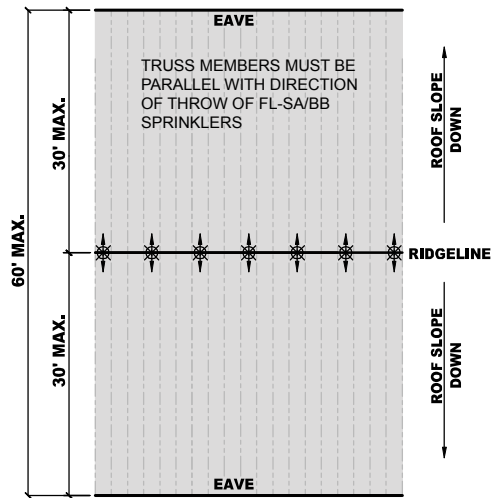

FIGURE 5A
- When utilizing this option, Model FL-SA/BB sprinklers are used to protect the entire width of the attic space. The span of the attic is measured along the floor (or ceiling of floor below) of the attic space from the peak to the intersection of the top chord and bottom chord of the roof trusses. See Figure 5a and Figure 5b. The span is twice the longer of the two measured half spans.